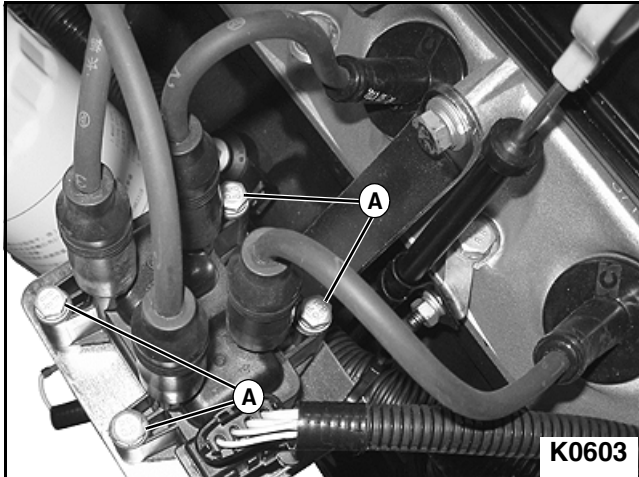

Figure 3-31
1. Install ignition coil to ignition coil mounting bracket using four ignition coil mounting bolts, flat washers, lock washers, and nuts (A). **See Figure 3-31.**